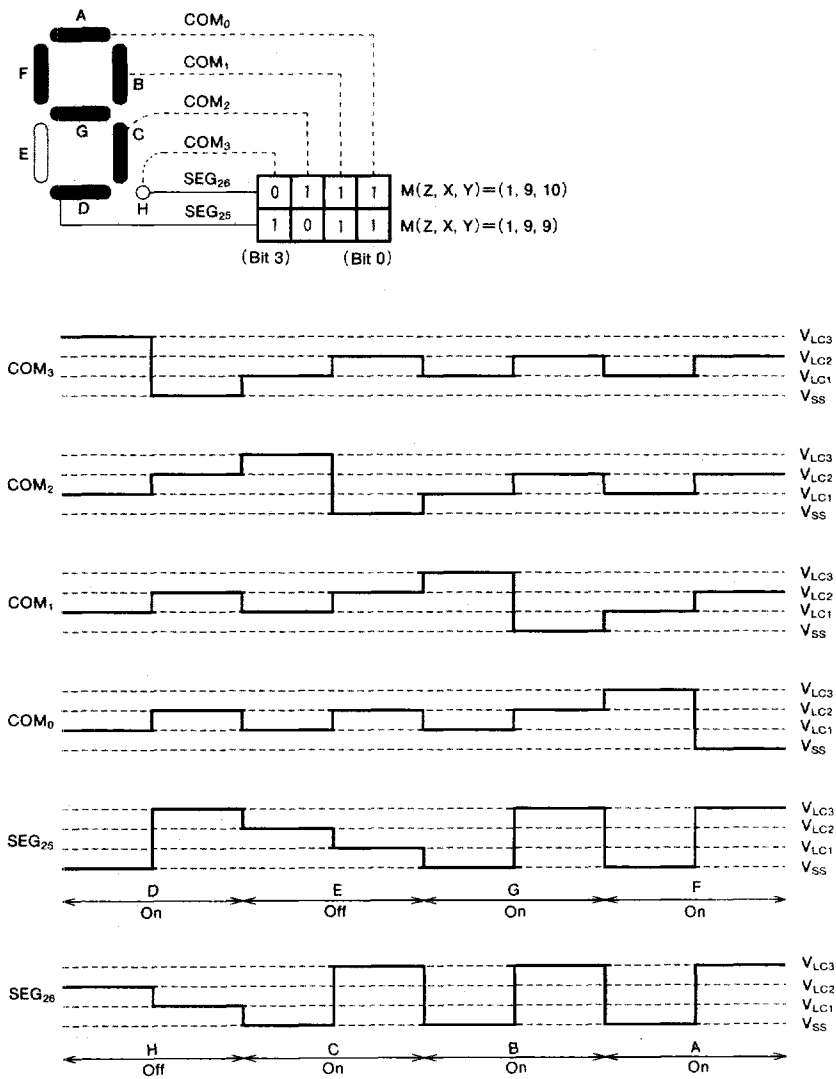

Fig. 47 Display pattern example and drive waveform example
4. Write $(1011)_2$ and $(0111)_2$ to addresses $M(Z, X, Y) = (1, 9, 9)$ and $M(Z, X, Y) = (1, 9, 10)$ in RAM as shown in Fig. 47.